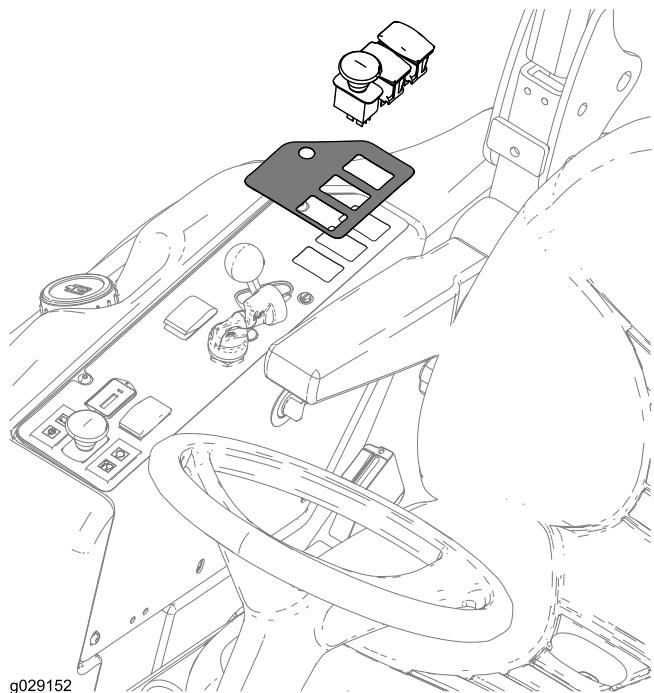

Figure 20
1. On the underside of the control panel, locate and remove the 3 tabs where you will install the switches (Figure 20).
2. Cut the same holes in the control-panel decal (Figure 20).
3. Install the decal and switches as shown in Figure 20.